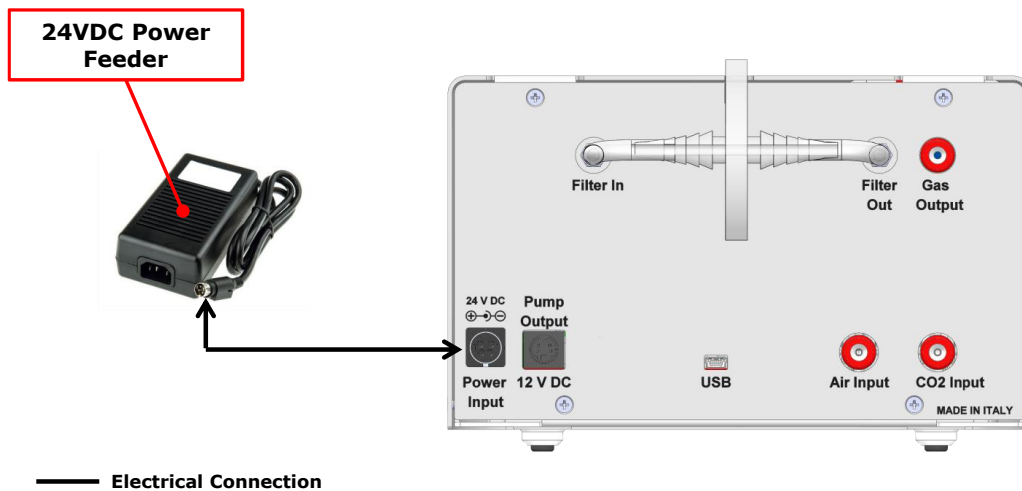

Figure 11. Power Feeder Connection.
- 7 Connect the power feeder to the CO2-UNIT-3L (See Figure 11).